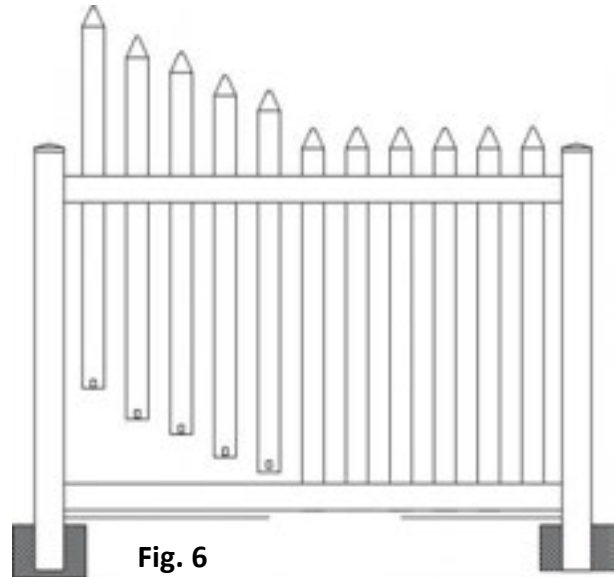

Fig. 6
**Step 1.** Before installing the pickets, install the top rail (Fig. 6).